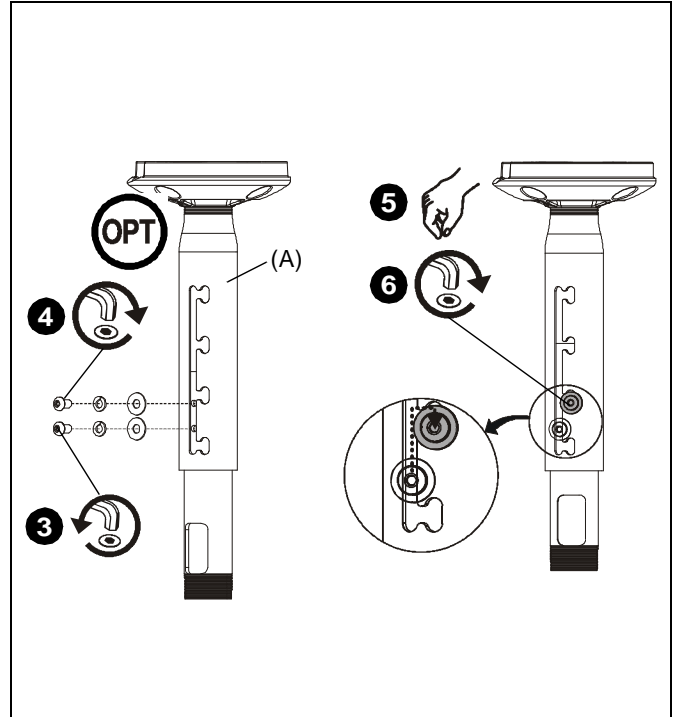

Figure 5
3. (Optional) Remove button head cap screw and supporting washers from lower adjustment hole if an additional 1" (25mm) adjustment increment is desired. (See Figure 5)
4. (Optional) Replace button head cap screw and supporting washers into upper adjustment hole to provide an additional 1" (25mm) adjustment increment. (See Figure 5)
5. Adjust column (A) to desired length, then rotate and lock into position. (See Figure 5)
6. Tighten adjustment screw using 3/16" hex key (D). (See Figure 5)